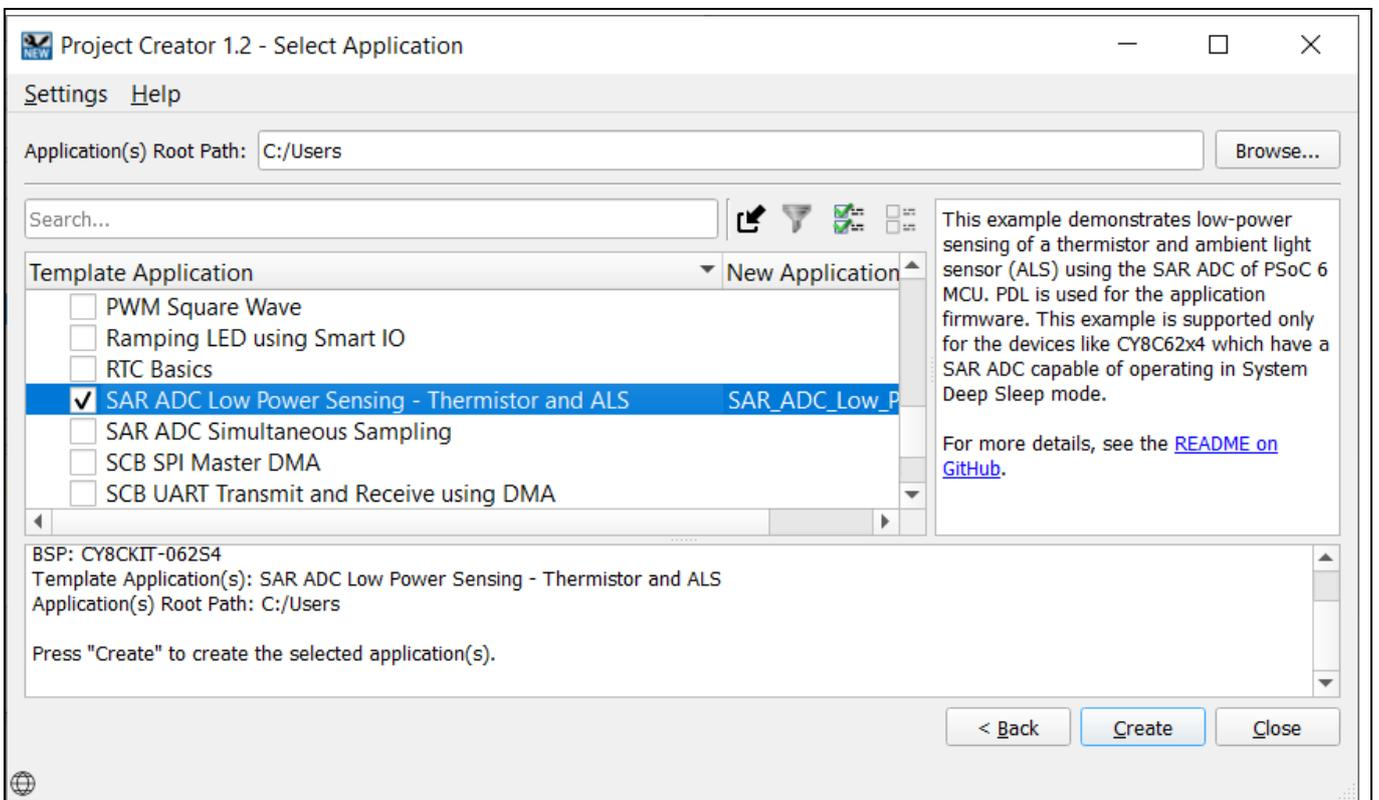

Figure 9 CY8CKIT-062S4 application selection
- c) Select the application and click **Create**, as shown in Figure 9.